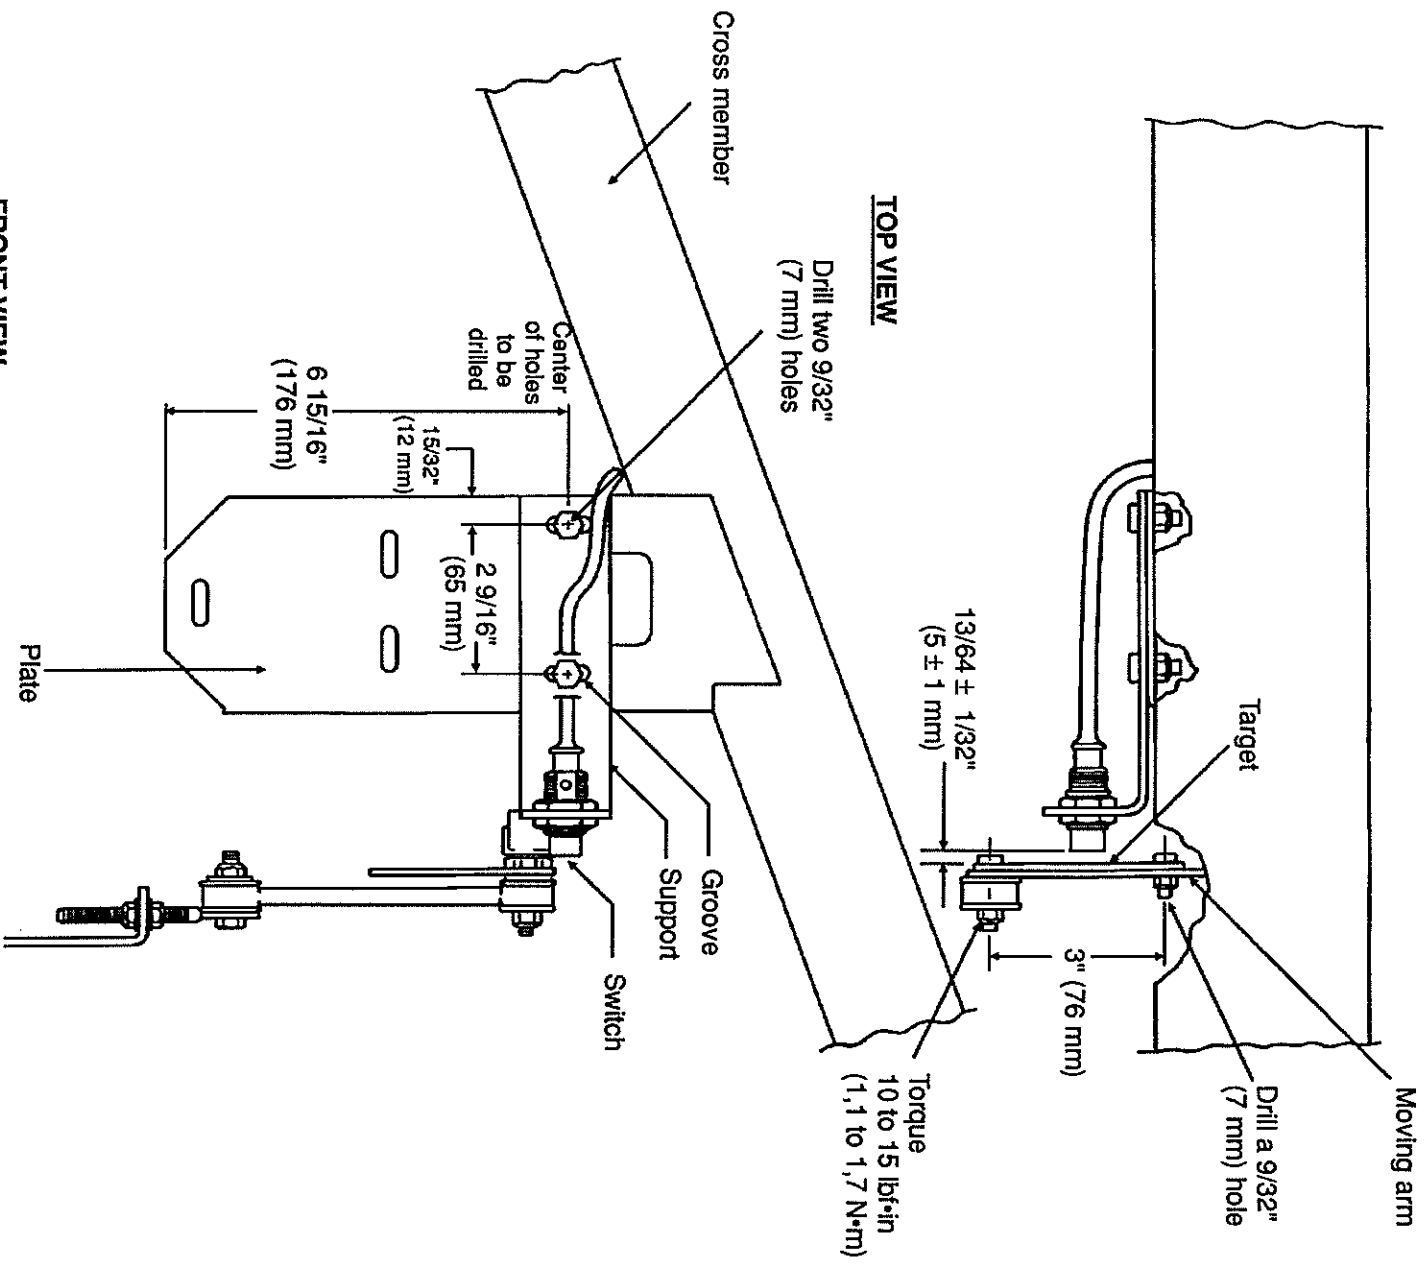

Figure 4 - Installation of the new switch
11. Using a 9/32" (7 mm) bit, drill two 9/32" (7 mm) holes on the plate mounted to the cross member, then drill a 9/32" (7 mm) hole on the moving arm according to the dimensions on figure 4.
CAUTION: Check that nuts are installed toward the outside of arm as illustrated in figure 4, so the bolts will not touch other components.